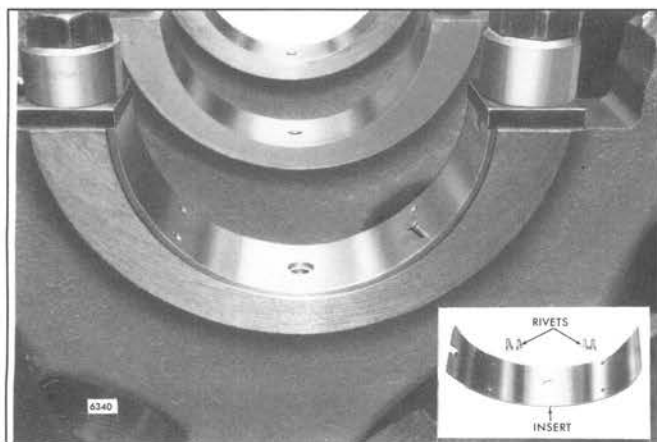

Fig. 7 – Position of Bushing and Hold Down Plate
15. After the saddles have been reworked, inserts must be installed. Install and align the insert with the hold-down bolts and plates provided. Use the plate with a "step" on the side of the insert opposite the tang. The hold-down plates will retain the insert in position. Tighten the hold-down bolts to 20 lb-ft (27 Nm) torque (Fig. 7).